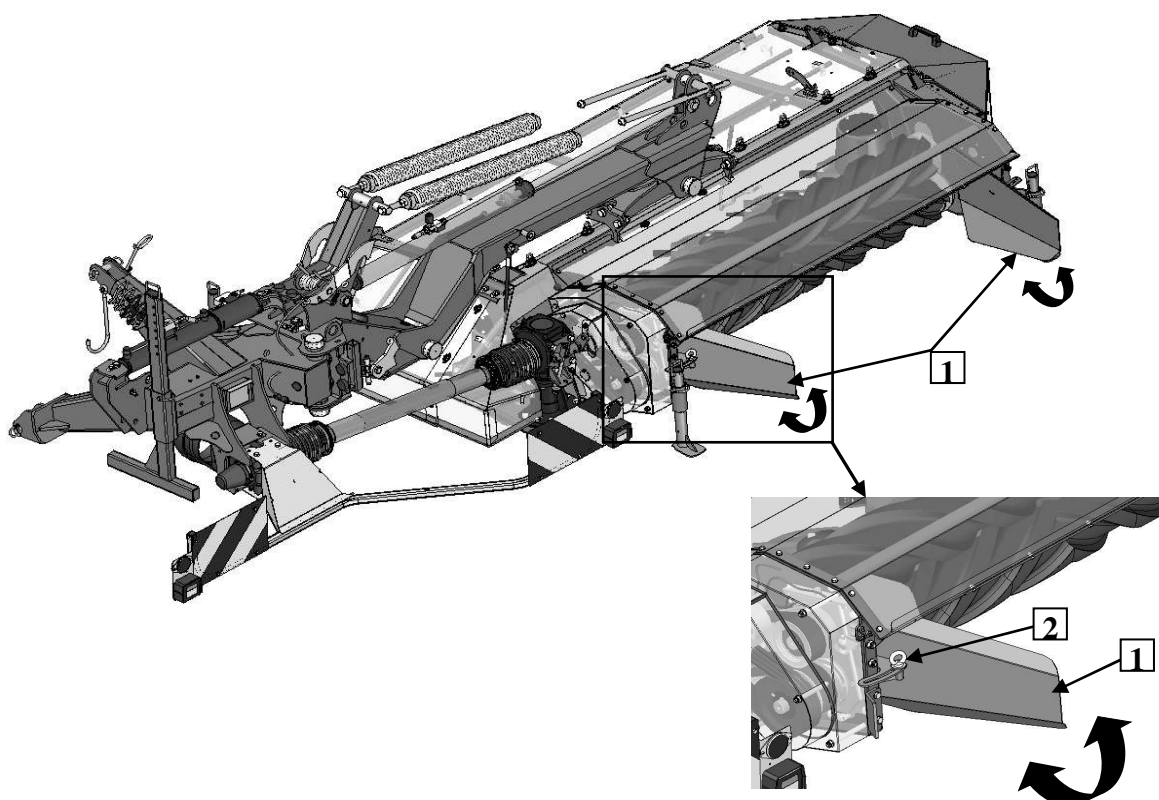

Fig. 25. Adjustment of swath guides: 1- swath guide, 2 - adjustment screw
In order to set swath width, adjustment of swath guides (1) should be performed (Fig. 25) (for: **KT 261 W (H)** and **KT 301 W (H)**):
- ❑ loosen eye screw (2) of the swath guide,
- ❑ set the swath guide (1) as needed,
- ❑ tighten screw (2).